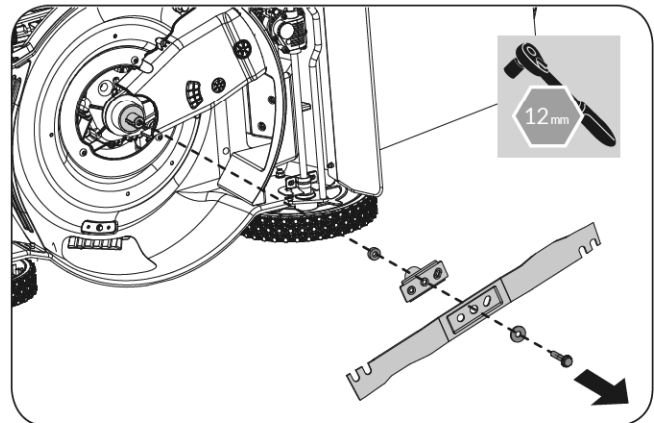

Figure 25
1. Remove the blade. (See **Figure 25**)